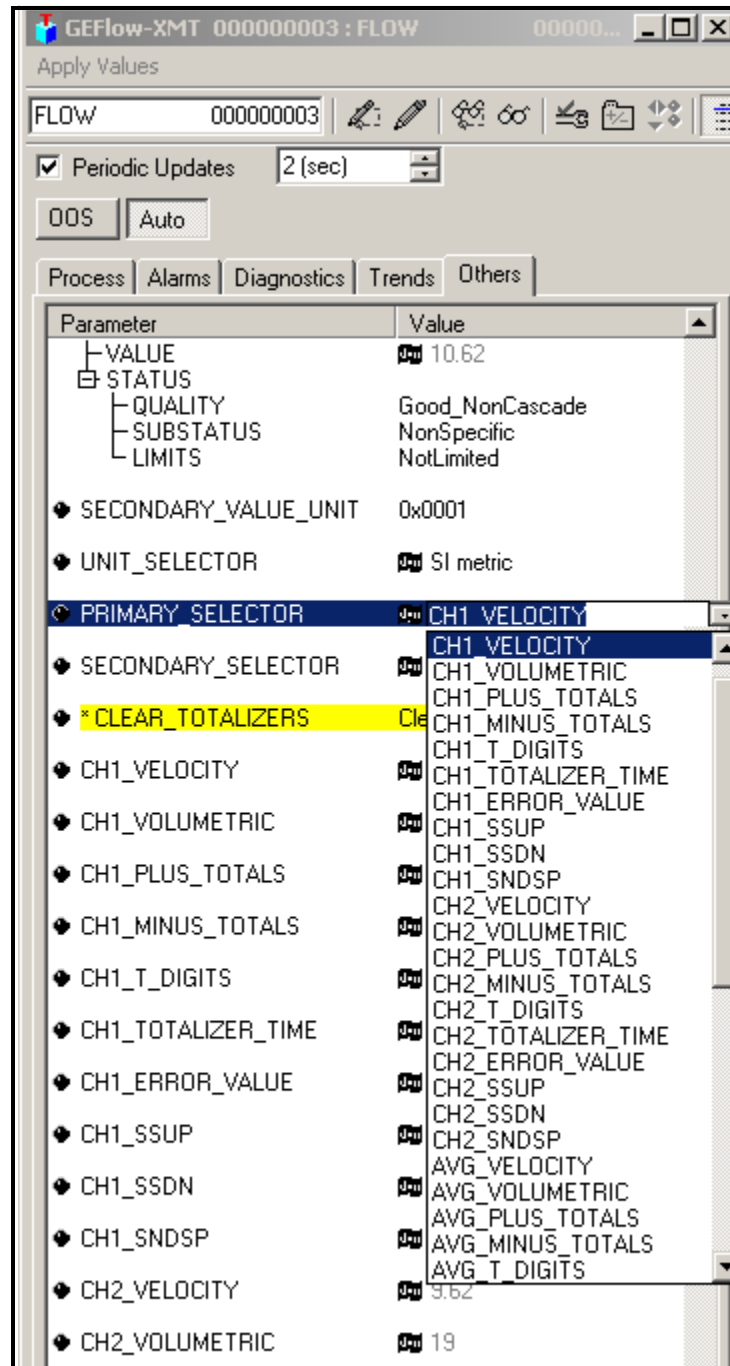

Figure 41: Primary Selector Drop Down List
2. Select the **Others** tab and open the drop down list for the PRIMARY_SELECTOR and SECONDARY_SELECTOR (see Figure 41 on page 117).
3. Choose the unit from the list (see Figure 41 on page 117).